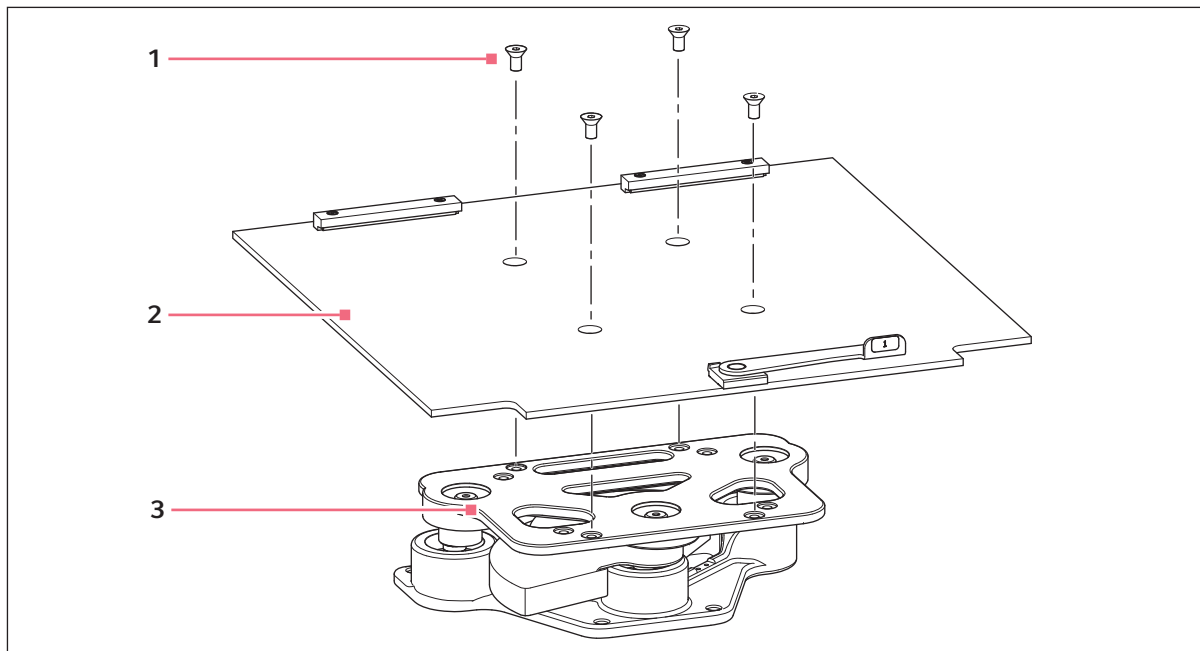

Fig. 8-1: Install sub-platform
Prior to use, a sub-platform and platform must be installed on the unit. The shaker is shipped with four Allen head platform screws installed in the bearing housing, (see Fig. 8-1 on p. 39).
2. Place the sub-platform onto the bearing housing, taking care to orient it as shown (see Fig. 8-1 on p. 39), with the notches and the lever toward the front of the shaker, lever facing up.